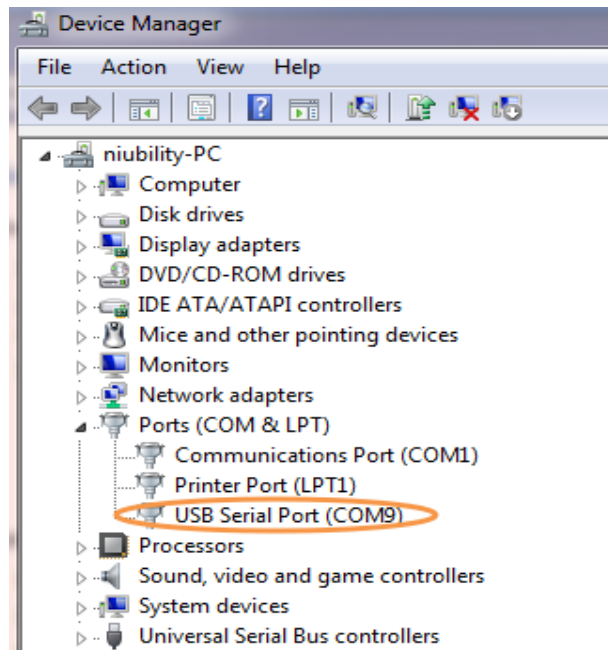

Figure 6-5 Check the assigned Com Port number On PC
- Open the Device Manager to ensure which common port is assigned to the UART to USB port as shown in **Figure 6-5**. The common number 9 (COM9) is assigned on this computer.